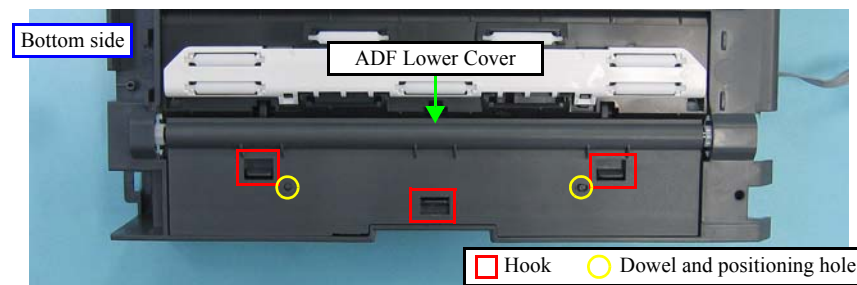

Figure 4-125. Removing the ADF PF Roller (1)
- When installing the ADF Lower Cover, match the positioning holes and the dowels (x2) as shown in Figure. 4-125.